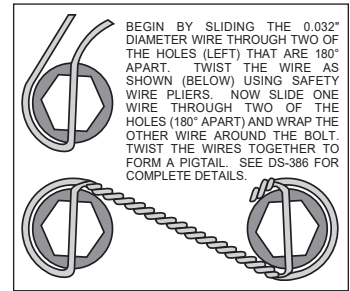
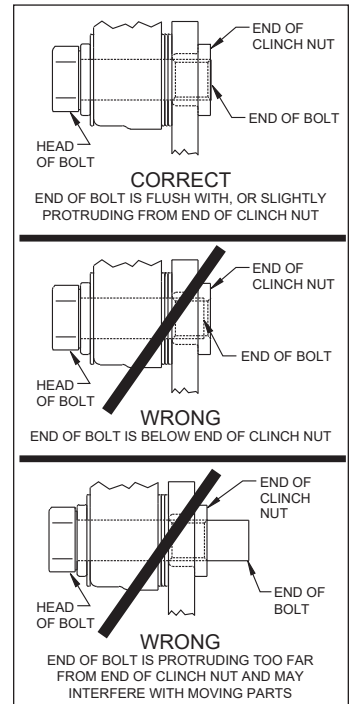

Figure 3. Safety Wire Diagram
Figure 4. Clinch Nut Engagement Diagram
**Assembly Instructions** (numbers in parenthesis refer to the parts list on the preceding page and Figure 1): **CAUTION:** All mounting bolts must fully engage clinch nuts. Be sure to check that all bolts are either flush or protruding through flanged side of clinch nut after shimming, Figure 4.
• Install the grease seal (11) by pressing into the backside of the hub (9), flush with the end of the hub, Photo 2.
• Orient the rotor (13) and the rotor adapter (12) as shown in Figure 1 and Photo 3, with the flat side of the rotor mounted to the rotor adapter. Attach the rotor to the adapter using bolts (14). Using an alternating sequence, apply red *Loctite*® 271 to the threads, and torque to 25 ft-lb. For an added measure of security, the bolts may be safety wired using standard 0.032 inch diameter stainless steel safety wire as shown in Figure 3. Please refer to Wilwood's data sheet DS-386 (available at [www.wilwood.com/Pdf/DataSheets/ds386.pdf](http://www.wilwood.com/Pdf/DataSheets/ds386.pdf)) for complete safety wire installation instructions.
- Pack the small outer bearing cone (16) with high temperature disc brake bearing grease and install into hub (9). Slide the hub/rotor assembly onto the spindle. Secure using spindle washer (24) and OEM spindle nut, Photo 5. Adjust bearings per OEM specifications. Install saved OEM nut lock (if any) and a new cotter pin (not supplied).
- Screw dust cap (18) into hub (9), Photo 6. Friction created by the o-ring (17) on the dust cap keeps it from unscrewing. **NOTE:** The O.D. of the existing OEM spindle washer may be larger than the I.D. of the dust cap not allowing it to seat against the hub face. Therefore, use the spindle washer (24) supplied with the kit instead of the OEM washer.
- NOTE:** Please reference the caution statement at the beginning of the assembly instructions. Mount the caliper (19) onto the caliper mounting bracket (1) using bolts (21) and washers (20), as shown in Figure 1. Initially place one .035" thick shim (22) on each bolt between the caliper and the bracket, Photo 7. Temporarily tighten the mounting bolts and view the rotor (13) through the top opening of the caliper. The rotor should be centered in the caliper, Photo 8. If not, adjust by adding or subtracting shims between the bracket and the caliper. Always use the same amount of shims on each of the two mounting bolts. **NOTE:** The end of each bolt must be flush with or slightly protruding from the head of the clinch nut, as shown in Figure 4. If necessary place spare shims between washer (20) and caliper mounting ear to achieve the proper clinch nut engagement. Once the caliper alignment and clinch nut engagement are correct, remove the bolts one at a time, apply red *Loctite*® 271 to bolt threads, and torque to 40 ft-lb. For an added measure of security, the bolts may be safety wired using standard 0.032 inch diameter stainless steel safety wire as shown in Figure 3. Please refer to Wilwood's data sheet DS-386 (available at [www.wilwood.com/Pdf/DataSheets/ds386.pdf](http://www.wilwood.com/Pdf/DataSheets/ds386.pdf)) for complete safety wire installation instructions.
- Install the disc brake pads (23) into the caliper, with the friction material facing the rotor (13), Photo 9, and secure in place using cotter pin (3), Photo 10.